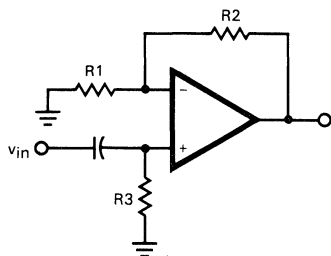

Fig. 8-7 AC Amplifier
- Never forget the need for a dc current path to the op amp inputs. If the op amp is used in an ac amplifier as shown in *Figure 8-7*, notice that R_3 is required to provide a dc current path to the non-inverting input. Without R_3 , the circuit just does not work! R_3 is also necessary if the source cannot supply the bias current.